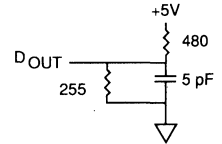

Fig. 2 OUTPUT LOAD EQUIVALENT
6. tHZCE and tHZWE are specified with CL = 5pF as in Fig. 2. Transition is measured ± 500mV from steady state voltage.